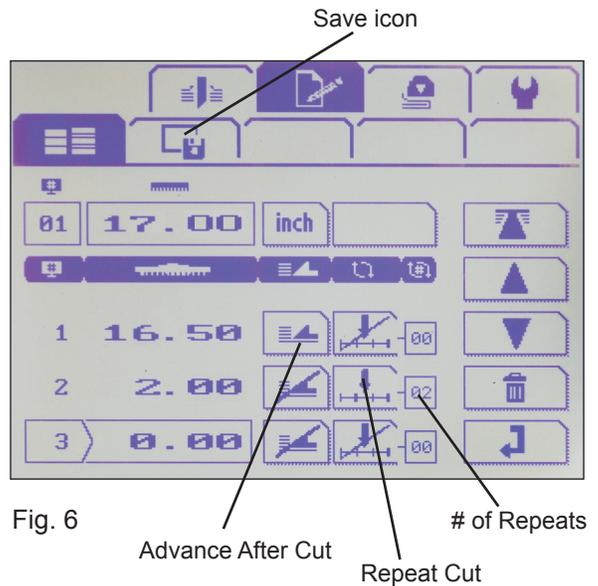

Fig. 6
4. If you would like the back gauge to slide the paper stack forward after making the cut, press the Advance icon (Fig. 6).
5. To repeat a cut length, press the Repeat Cut icon (Fig. 6).
7. When all cuts and settings are complete, press the Save icon (Fig. 6), and choose "Save."